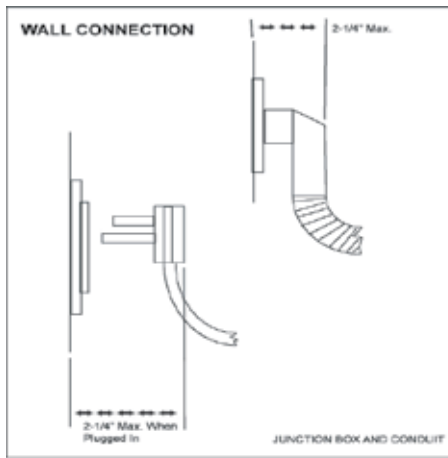

Fig. 3
- This is especially critical if the junction box in the wall will be directly behind the junction box of the unit when the unit is installed. To minimize binding when the unit is connected to the receptacle or junction box, orient the receptacle or conduit connector, and slide back into position (Fig. 3).